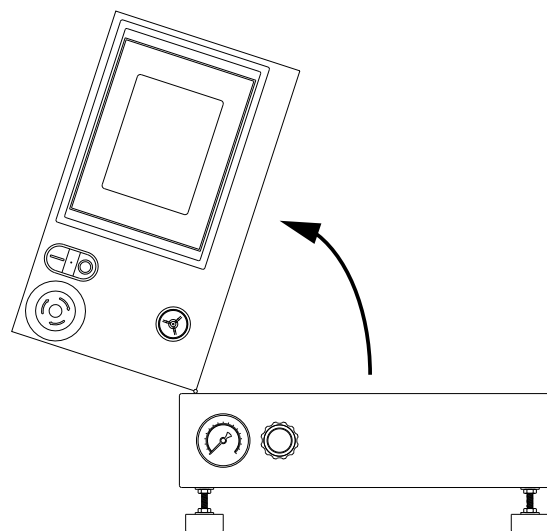

FIG. 3: Lift the Control Box
6. Loosen the fastener a quarter turn and lift the hinged portion of the control box as shown in Figure 3.